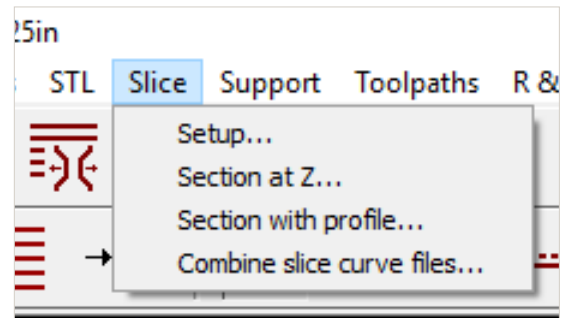

Figure 1. Menu location for **Combine slice curve files**.
2. Select **Combine slice curve files** to combine two SJB files (Figure 1). This must be done with an SJB file already open.